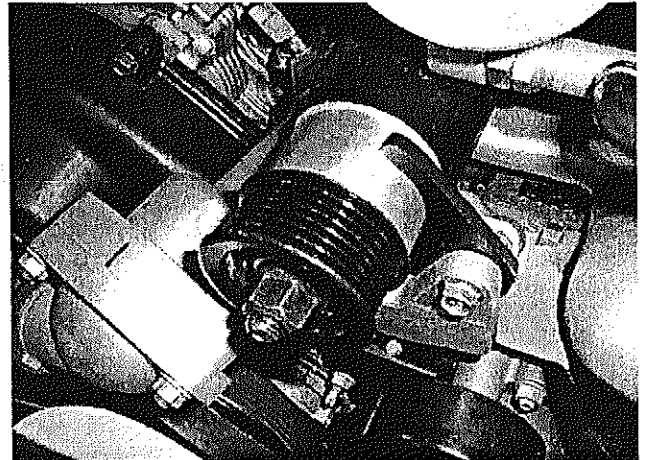

Figure 34
24. Install the supercharger nose support bracket (if equipped). Adjust the nose support bracket to fit snug against the supercharger nose (Figure 34). Torque the fasteners to 18 N-m (13 ft-lbf).